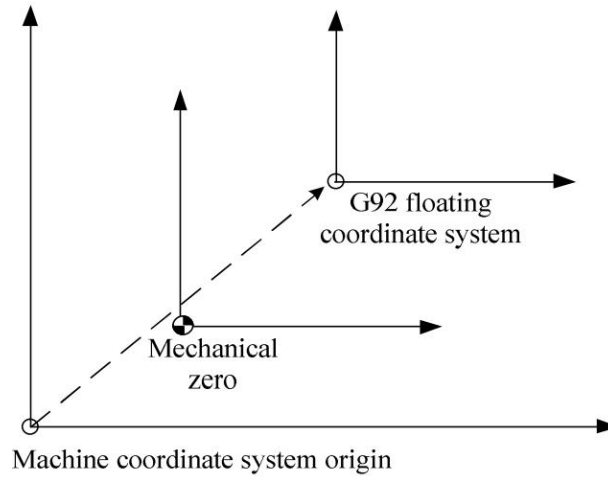

Fig.4-2-11-1
1. As shown in Figure 4-2-11-1, the origin of the G92 floating coordinate system is the value in the machine coordinate system, and has no relation with the workpiece coordinate system. For the validity of G92 after setting, it is valid: